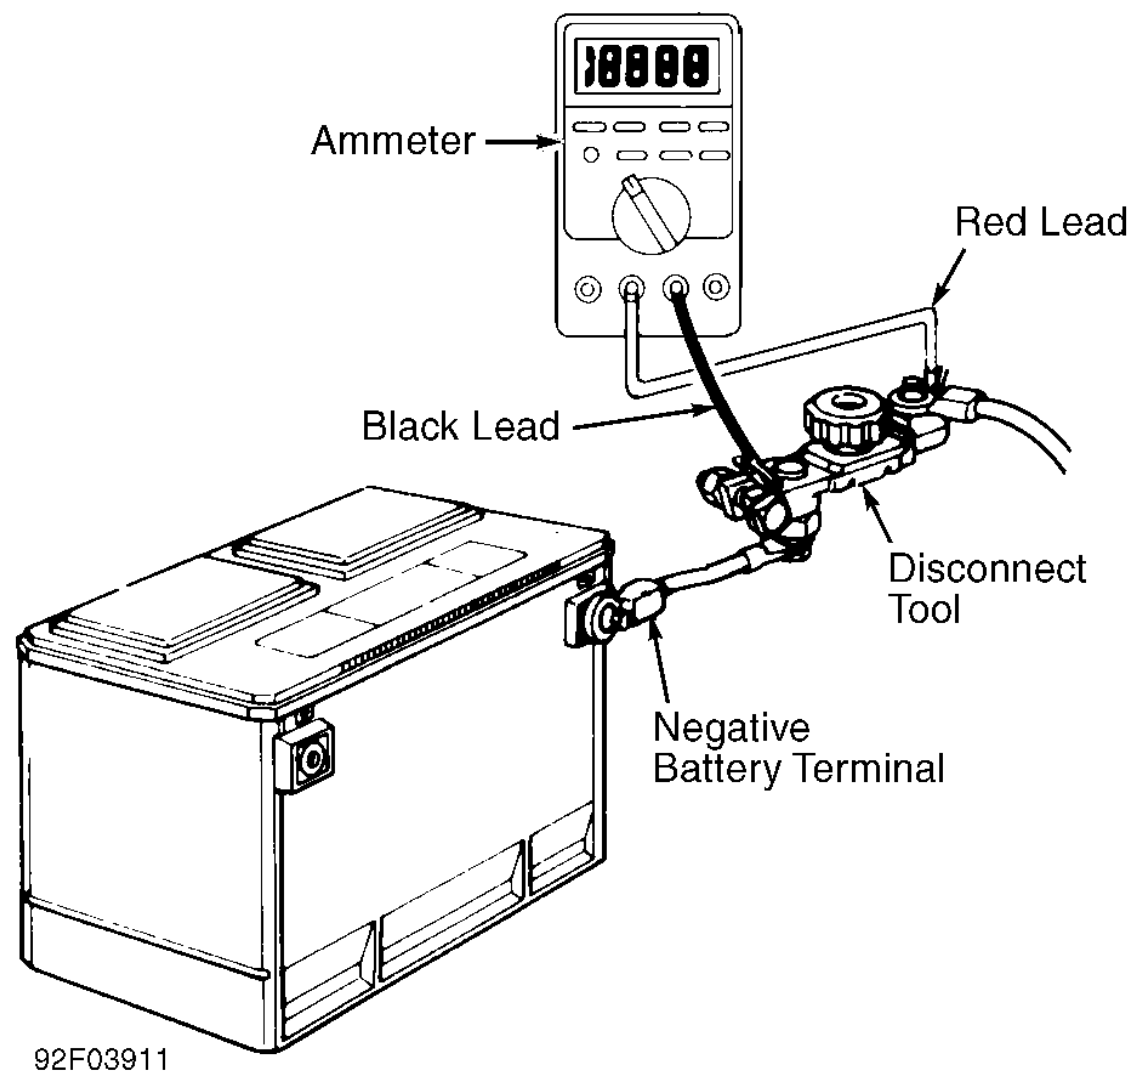

Fig. 1: Connecting Kent-Moore Disconnect Tool (J-38758)
2. Turn test switch knob to ON position (current through switch). Road test vehicle with vehicle accessories on (radio, air conditioner, etc). After road test, turn ignition switch to LOCKED position and remove key. Connect ammeter terminals to test switch terminals. See Fig. 1. Select 10-amp scale.
To find an intermittent problem requires that an ammeter and Disconnect Tool (J-38758) test switch be connected and left in the circuit. See Fig. 1. Road test vehicle. After road test, turn ignition off and remove key.